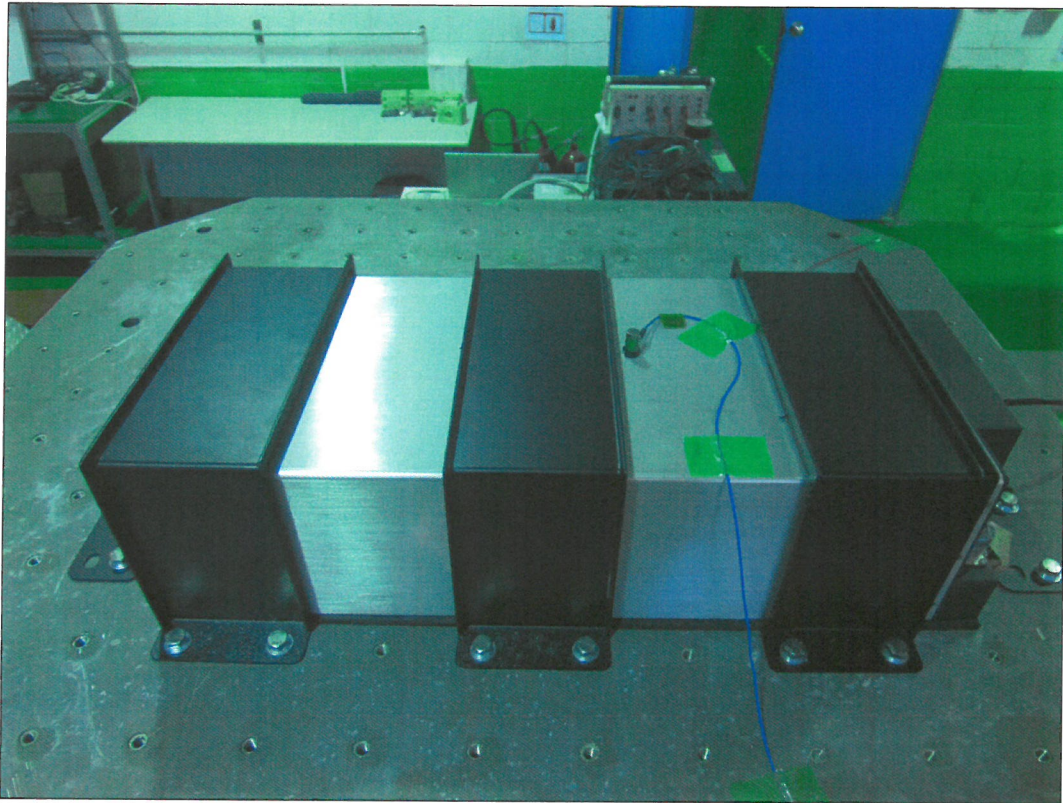

Fig.1 Show the DUT of Z axis vibration test
- Fig.1 Show the DUT of Z axis vibration test.